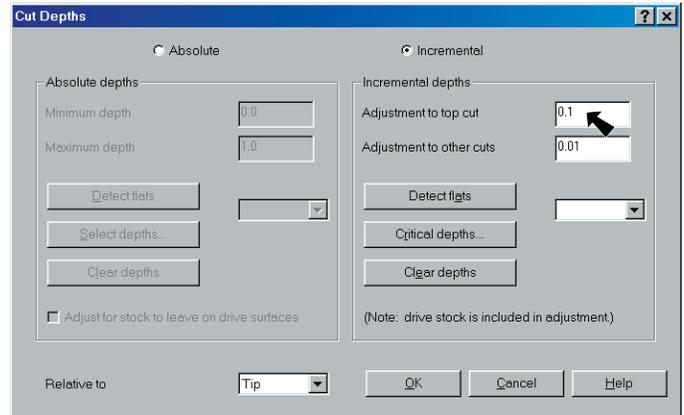

Fig. 7
Step 16. Set Adjustment to Top Cut: .1, **Fig. 7** and click OK.